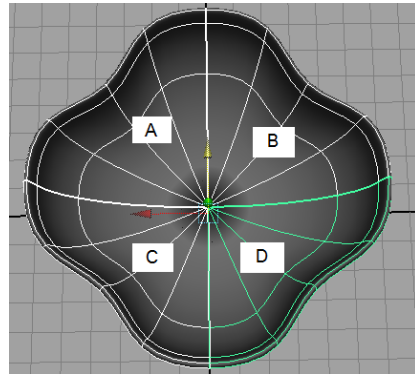
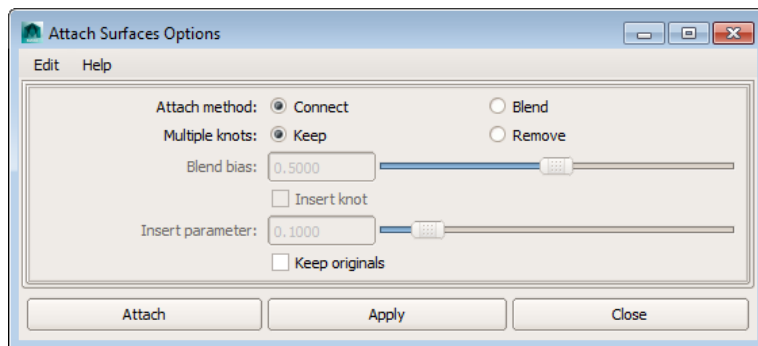

Figure 3-94 Four parts of the cup
Figure 3-95 The **Attach Surfaces Options** dialog box
11. Press and hold the SHIFT key and select the parts 'A' and 'B' of the cup, refer to Figure 3-94. Choose **Edit NURBS > Attach Surfaces > Option Box** from the menubar; the **Attach Surfaces Options** dialog box is displayed, refer to Figure 3-95. Set the parameters in this dialog box, as shown in Figure 3-95, and then choose the **Attach** button; the selected parts get attached.